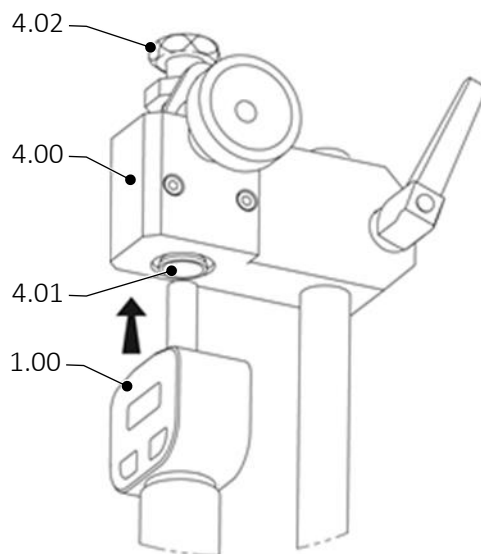

Fig. 4 Mounting the hardness tester on test stand
- Put hardness tester (1.00) onto the specimen (13).
- Hold the hardness tester at the stabilizing ring (10) by one hand, in order to avoid a tilting.
- Press the housing (12) of the hardness tester onto the specimen by your other hand, with a minimum contact pressure **force of 10 kg**.
- The hardness test is interrupted by releasing the hardness tester (1.00, Fig.4) before the audio signal. There is a double audio signal. The display reads „O “.